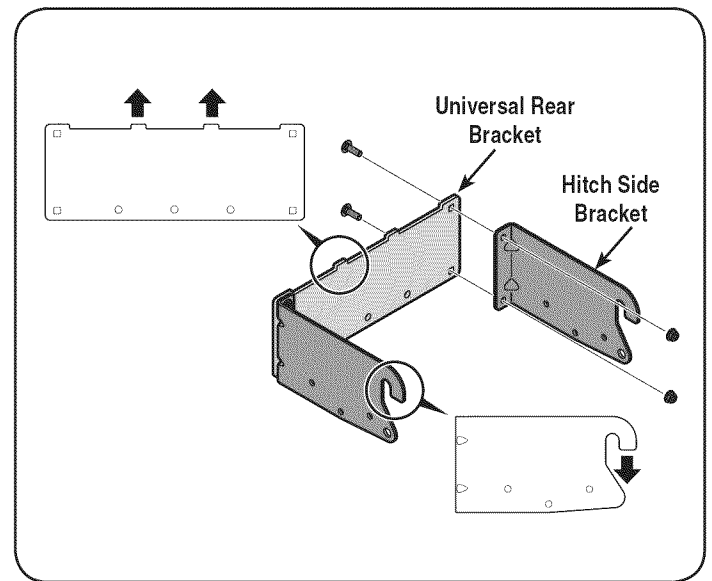

Figure 3
1. Attach the right-hand and left hand rider hitch bracket to the universal rear attachment bracket using the four carriage bolts (710-0276) and flange lock nuts (712-04063) packed with the mounting brackets. Position the brackets with the hooks on the right-hand and left hand rider hitch bracket pointing downward, and the tabs on the universal rear attachment bracket pointing upwards. See Fig. 3.